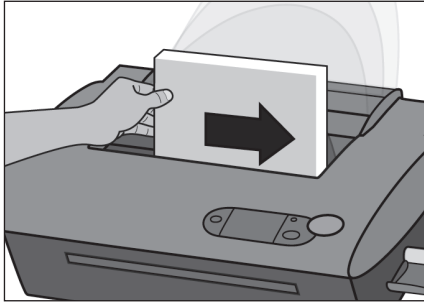

FIGURE 9
2. **Slide Book in Place.** Place the document in the top recess and slide it to the right. Tap the pages again to make sure they are all aligned. (fig. 9)